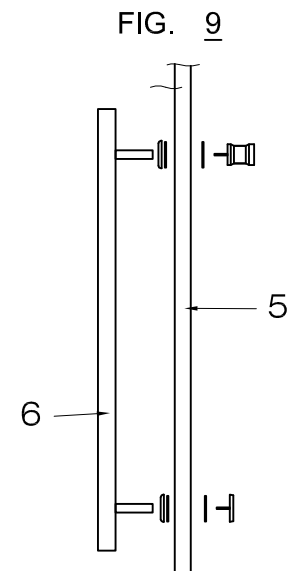

FIG. 9
2. Place the handle to the position on the door. Place plastic washers (supplied) on each side of the door. [SEE FIG.9.]